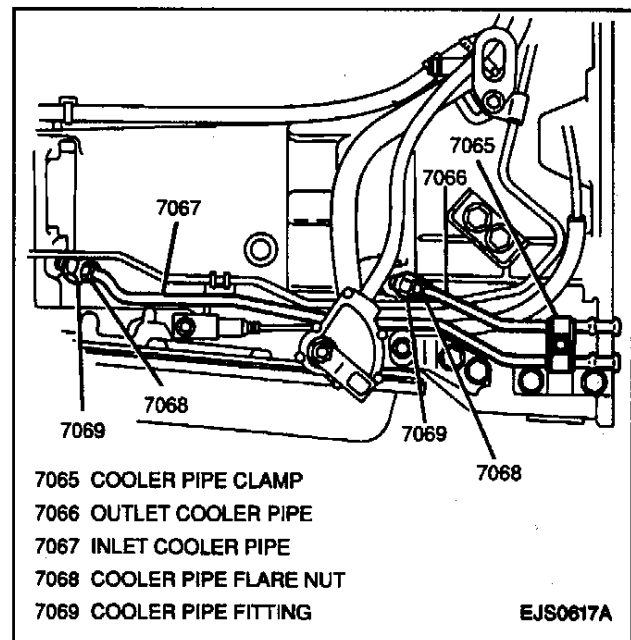

Figure 119—Transmission Cooler Pipes (3L30, 3-Speed)
8. One bolt and cooler pipe clamp from transmission (Figure 119).
9. Inlet and outlet transmission cooler pipes from transmission by loosening both flare nuts at cooler pipe fittings (Figures 119 and 120).
1. Inlet and outlet transmission cooler pipes to transmission by threading both flare nuts into cooler pipe fittings (Figures 119 and 120).
3. Transmission cooler hoses to inlet and outlet cooler pipes at transmission; secure with two inlet and outlet hose clamps (Figures 119 and 120).
Figures 119 through 126
15. Park/Neutral position (PNP) switch (3L30, 3-Speed) or transmission range switch (03-72LE, 4-Speed) electrical connector (Figures 119 and 120).
37. Two clamps and fluid cooler hoses from fluid cooler pipes at transmission (Figures 119 and 120).